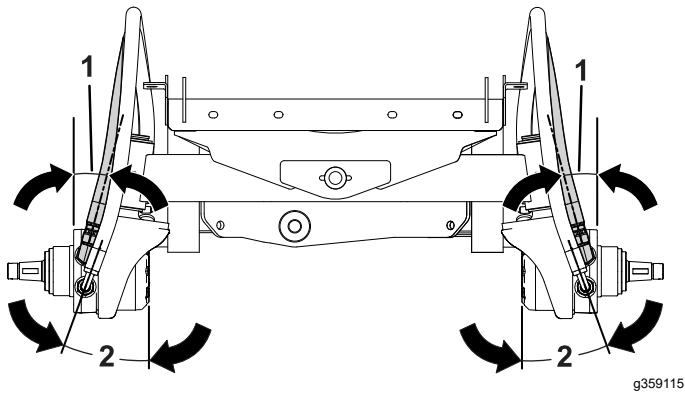

Figure 5
4. Adjust the 90° elbow fitting to a 15° angle as shown in Figure 5.
8. Adjust the 90° hose elbow to a 20° angle as shown in Figure 5.
- Note:** Ensure the angles are maintained as shown in Figure 5.